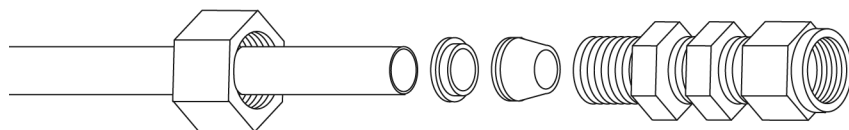
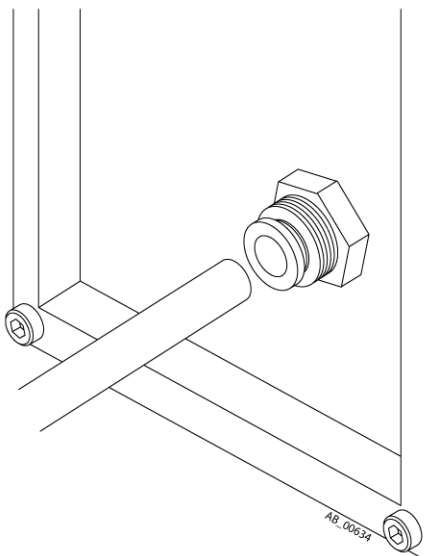

Figure 2-4 Swagelok connection and tubing
Figure 2-5 Quick-connect fitting on the instrument panel
**Note:** All regulator output fittings are 1/4-inch Swagelok, shown in Figure 2-4. For CAD gas, the input fitting on the instrument panel is 1/4-inch Swagelok. For all other gases, the input fitting is quick-connect, shown in Figure 2-5.